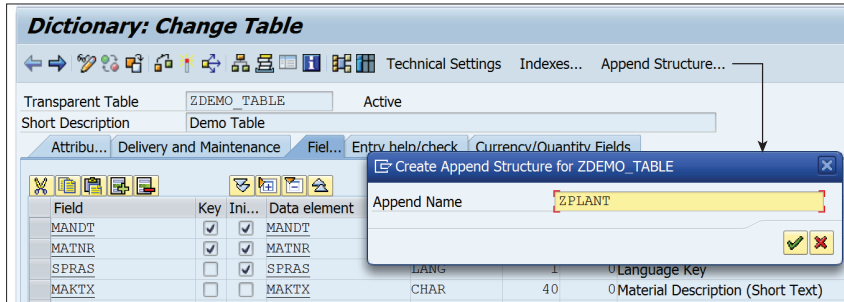

Figure 10.32 Adding an Append Structure
2. Click the APPEND STRUCTURE button in the application toolbar, shown in Figure 10.32.
3. In the window that appears (see Figure 10.32), provide the append structure name in the customer namespace.